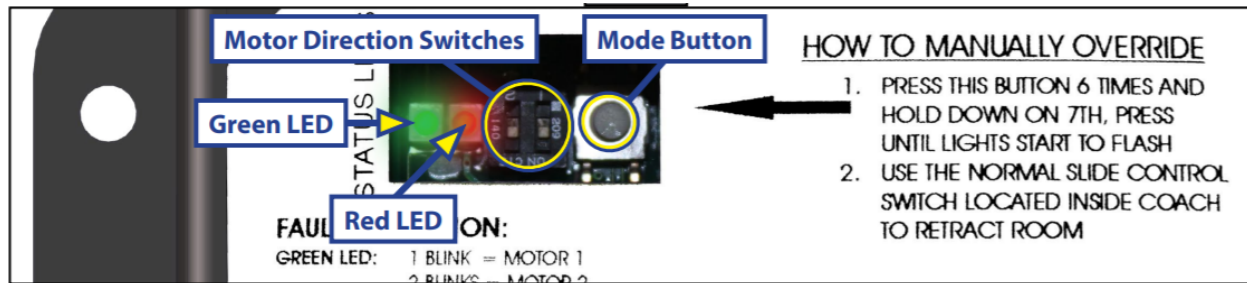

Figure 54. Controller interface showing Mode button.
1. Press the mode button on the controller (see Figure 54) six times and hold on the seventh for five seconds to enter electronic manual override mode.